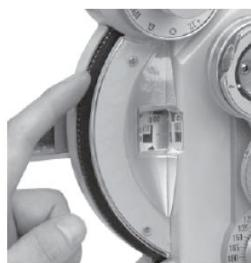

Fig.11
To show the spherical power only (shortened as "S"), turn auxiliary lens knob ②1 to O position, then turn cylindrical lens knob ②7 until "00" is shown on cylindrical power scale ②5. Then turn weak spherical power dial ②3, value S is displayed in spherical power scale ②4, within range from -19.00D~+16.75D, increasing or decreasing progressively in 0.25D (Fig.11).